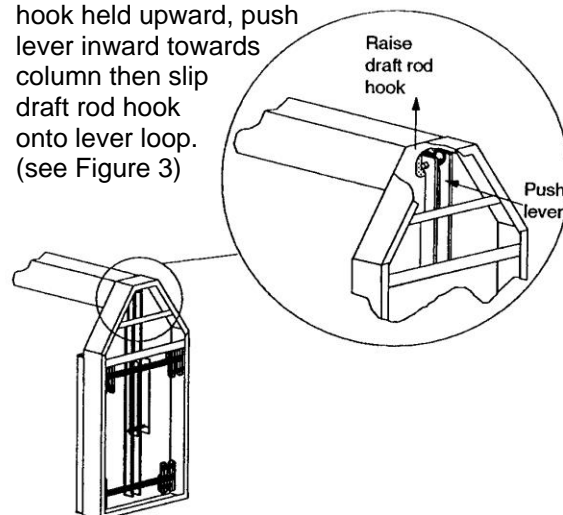

Figure 3 – View showing procedure for attachment of draft rod hook onto lever loop in platform base.
3. Lay scale on table top with platform base pointing down and column horizontal to floor. With draft rod hook held upward, push lever inward towards column then slip draft rod hook onto lever loop. (see Figure 3)